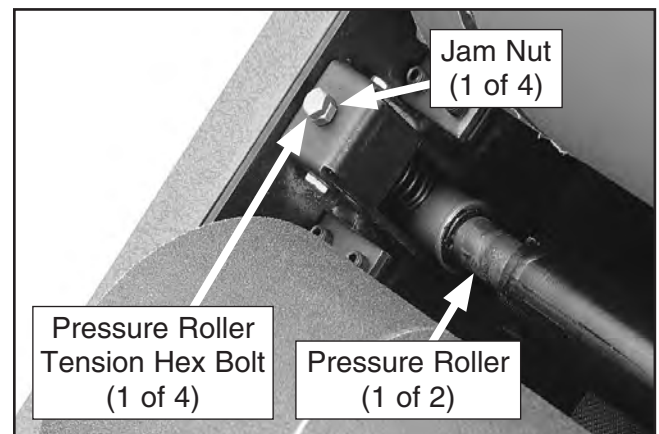

Figure 42. Location of pressure roller tensioners.
3. Loosen jam nuts on hex bolts (see **Figure 42**). Tighten hex bolts to increase pressure roller spring tension; loosen hex bolts to decrease pressure roller spring tension.